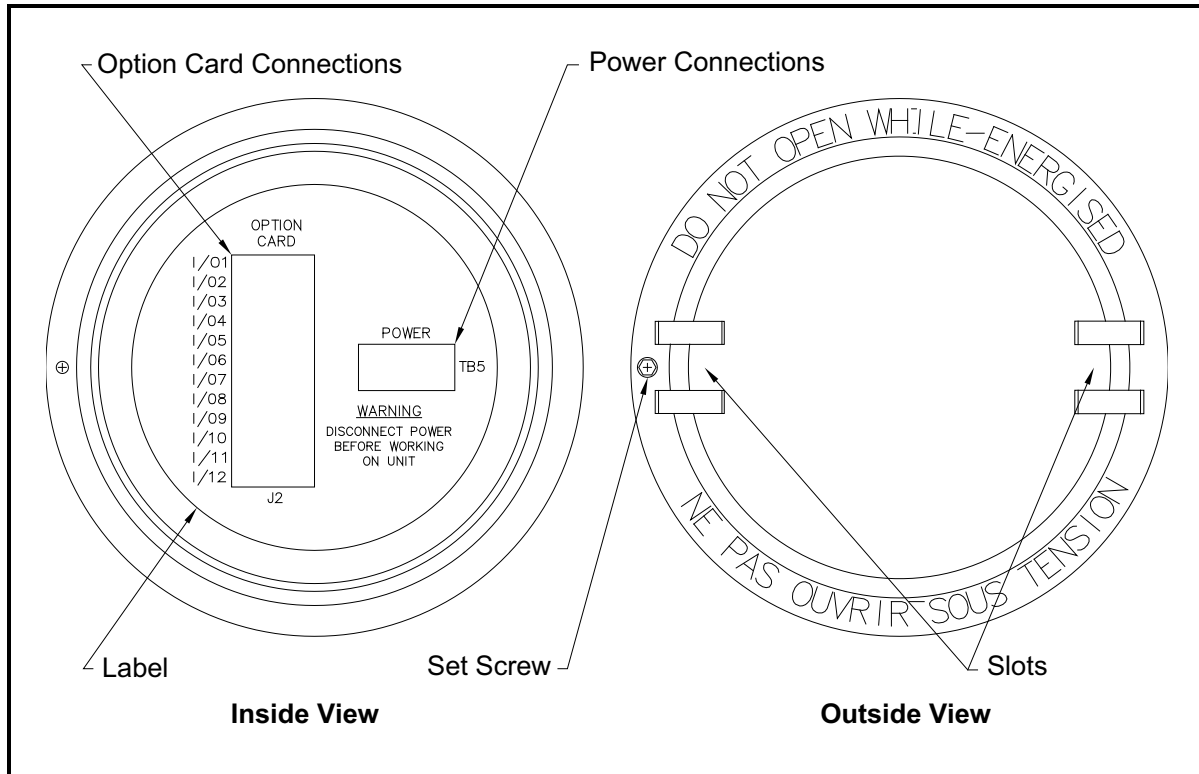

Figure 3: Rear Cover with Connection Labels
Refer to Figure 3 on page 6 and prepare the Model XMT868i for wiring by completing the following steps:
3. Locate the 12-pin terminal block (**J2**) in Figure 10 on page 23 and wire the option card as indicated on the label inside the rear cover (see Figure 3 on page 6 and Figure 11 on page 24). Secure the cable clamp.